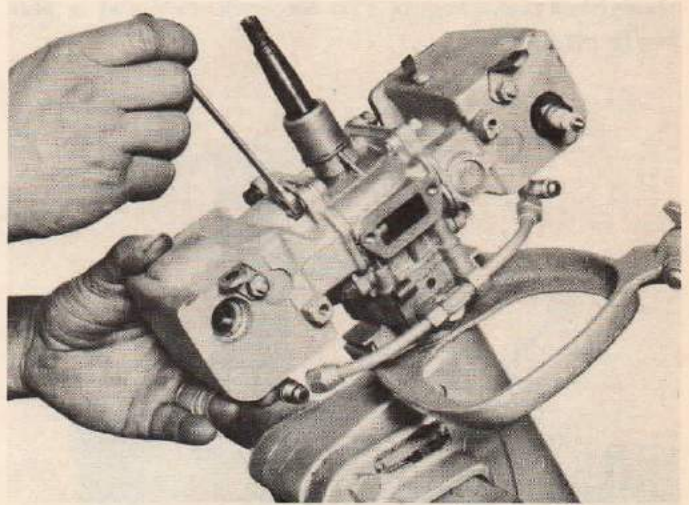

Figure 51
**PAL, RANGER, ACE, SPORTSMAN, HANDI-TWIN, SPORTWIN, LIGHTWIN, FISHERMAN**—To disassemble, remove four screws holding cylinder and remove cylinder. Remove two connecting rod screws. Remove four screws holding lower bearing and remove bearing. Crankshaft can now be removed. (Figures 51, 52, 53, 54.) Remove carburetor. Wash all parts.